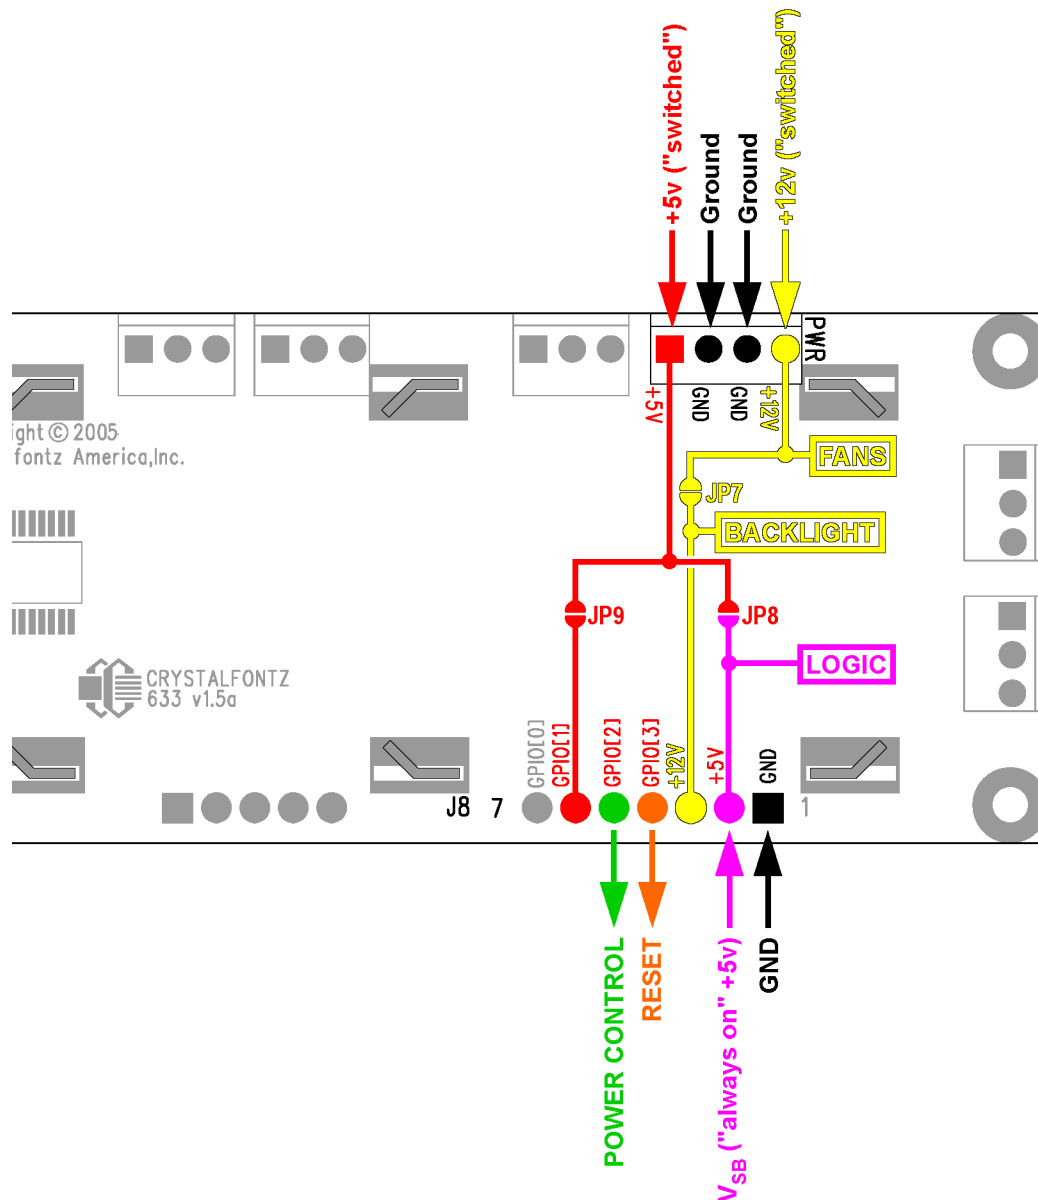

Figure 4. CFA633-YYB-KS ATX power supply and control connections
*JP7 must be opened for the operating range of +12v fans to be different from +12v backlights (listed in this table). If JP7 is closed (which is the factory default), then the voltage specification range for backlights must be observed for both backlights AND fans. Please see Figure 4. on Pg. 15.